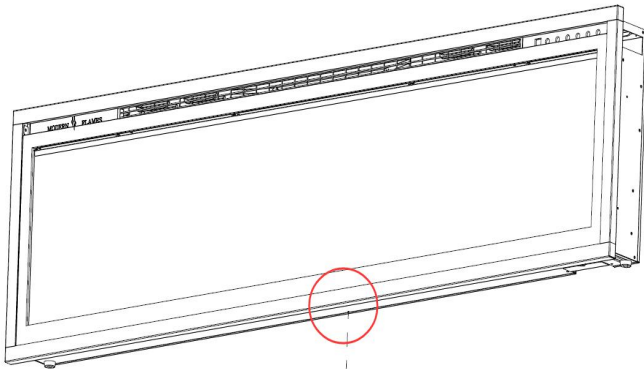

Fig 3-1
A. Remove the silver screw at the bottom of the appliance. **(Fig 3-1)**. Set the screw aside.